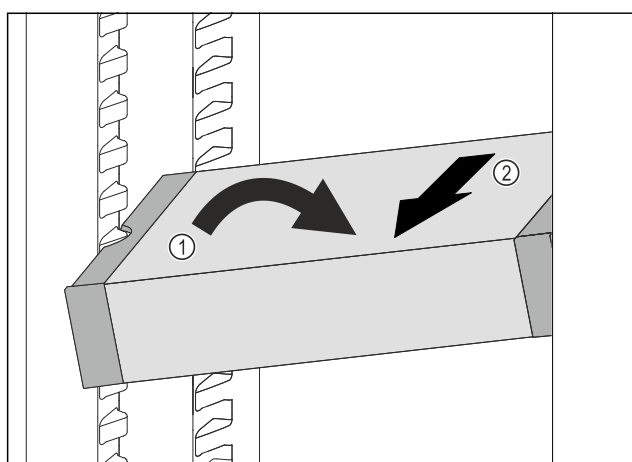

Fig. 152
- Set VarioSafe in refrigerator compartment at an angle. Fig. 152 (1)
- Take VarioSafe out to the front. Fig. 152 (2)